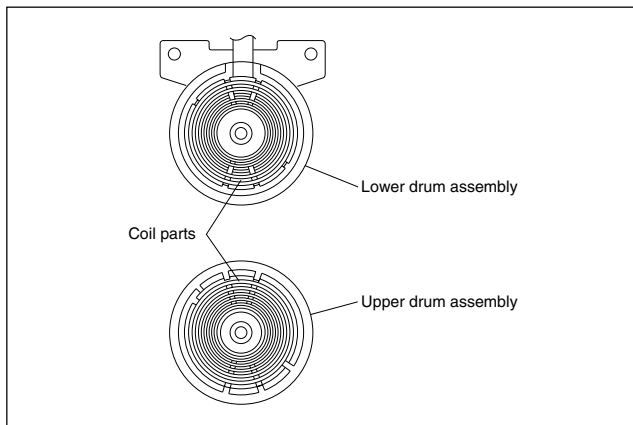

Fig. 2-2-19b
- (1) Clean the coil parts of the lower drum assembly and the newly installed upper drum assembly with an air brush in advance. (See Fig.2-2-19b.)